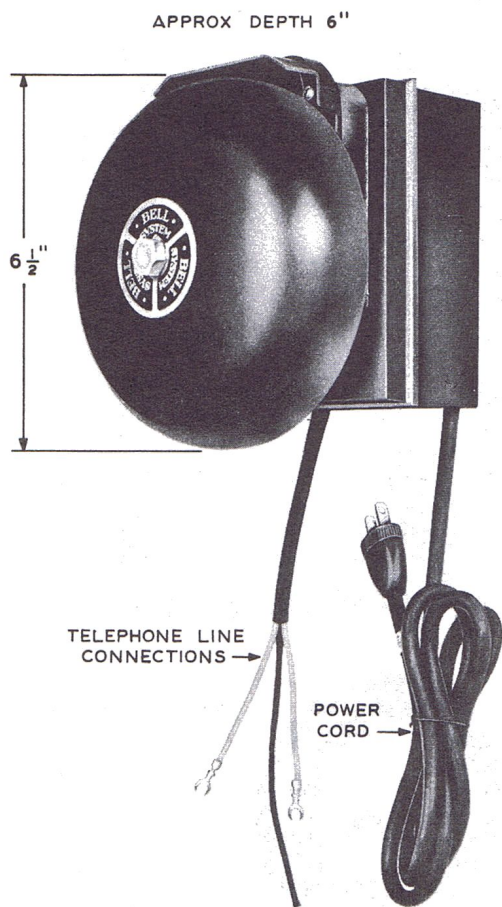

Fig. 16 — KS-8227 Signal Bell (6 Inch, Indoor)
4.01 KS-8000 series signals consisting of bells, horns, and chimes (shown in Fig. 16, 17, and 18) may be obtained with or without relays for indoor or outdoor use. Most of these signals have been replaced by KS-16301 signals (see Tables C and D).